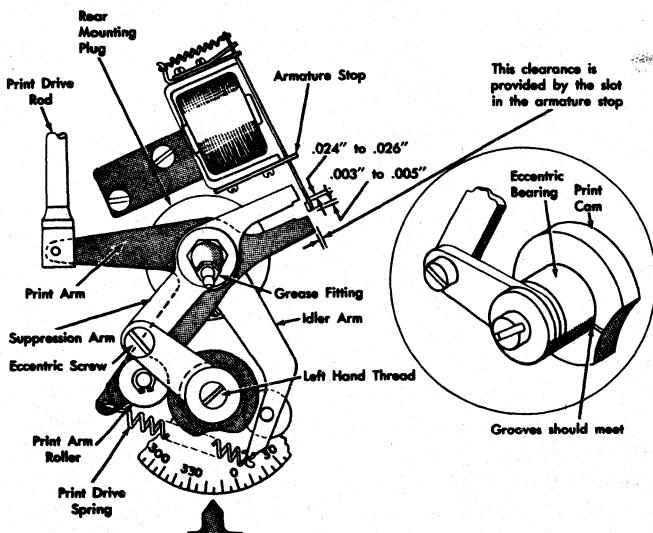

Figure 87. Print Drive Unit
1. Loosen left-hand thread screw (Figure 87) at rear of punch shaft and position eccentric to line up its groove with mark on print cam.
2. Attract print suppression armature and, with punch clutch latched, adjust eccentric screw (Figure 87) in eccentric drive link for .024-inch to .026-inch clearance between suppress arm and block on armature.